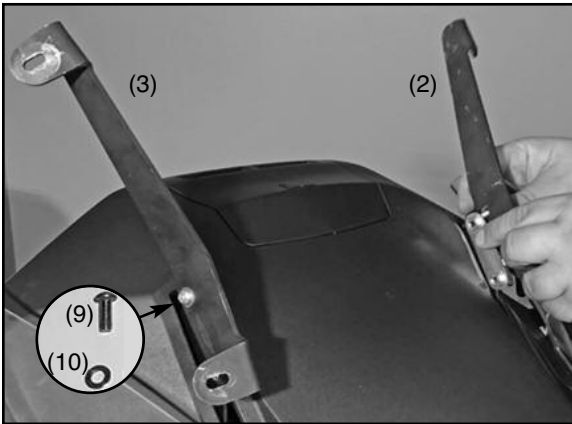

Fig 8
11. Use the Screw (9) and Washer (10) to mount the Mount Arm (2 and 3) to the motorcycle. Tighten screws firmly. **(4mm Hex Wrench) Fig 8**